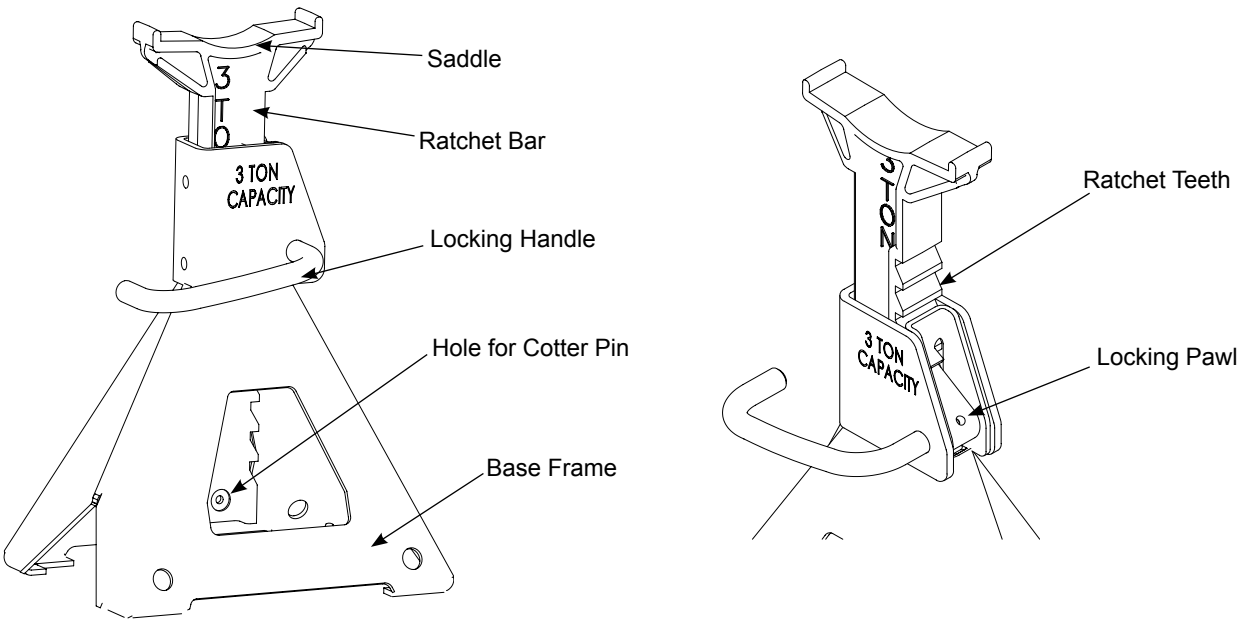

Figure 1 - Jack Stand Components
- (refer to Figure 1 for location of components)
1. Verify that the product and the application are compatible, if in doubt call Hein-Werner Technical Service (816) 891-6390.
6. Insert cotter pin into the bottom hole of the ratchet bar to prevent inadvertent loss of the ratchet bar (refer to Figure 1).